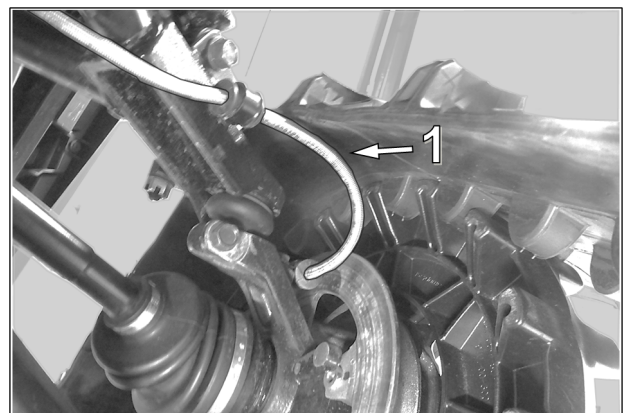

Fig. 21
**CAUTION:** Verify front brake hose (1) routing. Modify hose angle or attach hose to eliminate the risk of interference with the track. See Fig. 21